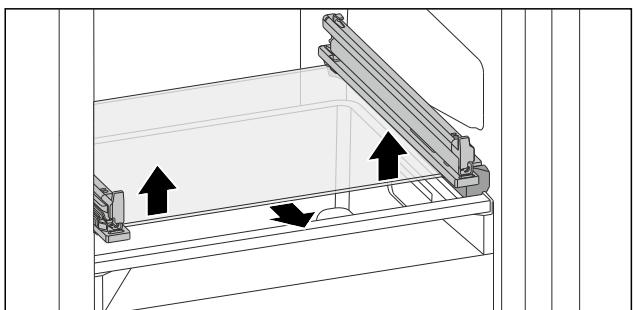

Fig. 73 Tilting drawer glass shelf
- Push glass shelf upwards from below on both sides. (see Fig. 73)